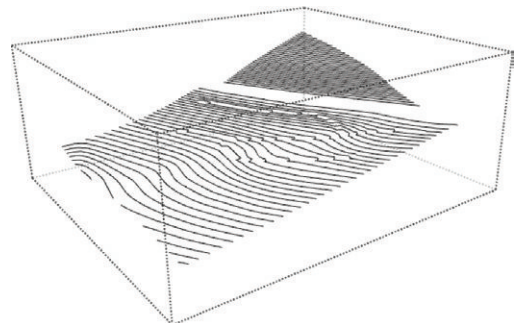

Figure 15.18 The topography lines are isolated; the Hide Rest of Model option is on for effect.
- Delete all of the rectangle slices. You no longer need them after the topography lines are created (Figure 15.18).